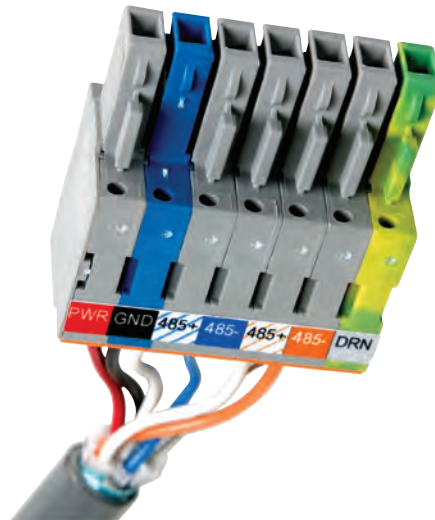

Figure 2.8 – Color Label on Plug-in Terminals
The SmartSensor Matrix will receive power once each SmartSensor 6-conductor cable is correctly landed into the plug-in terminals on the backplate (see Figure 2.8 and Table 2.1). Each 6-conductor cable has one DC power wire pair, two RS-485 communication pairs, and a drain wire. The service end of the cable connects to plug-in terminals on the pre-assembled backplate (see Figure 2.8).
- 3 Insert the wire leads into the bottom side of the plug-in terminal according to the color code shown in Table 2.1 and Figure 2.8. Make sure the wires are completely inserted in the terminal.
First, for visual confirmation, one part of the plug is blue (see Figure 2.8) and must be visually matched up to a blue terminal block. The location of the blue piece rotates in the different plugs and terminal block sections: in the first, the first block is blue, in the second, the second is blue, etc.
Second, the plugs are keyed (see the blue piece in Figure 2.8) so they will only fit into their correct terminal block sections.